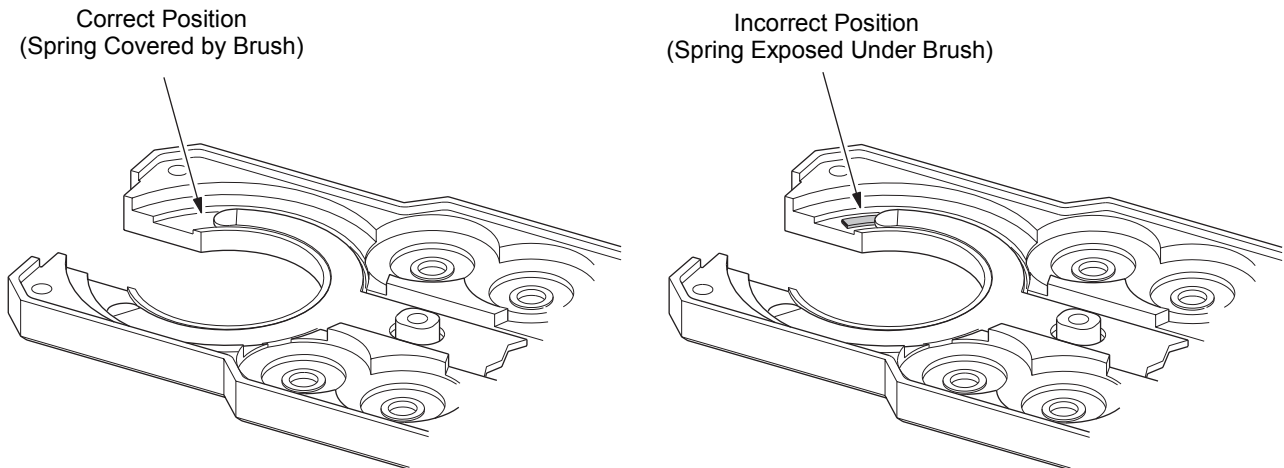

Figure 34 Spring Position
13. Verify that the spring under the weld head brush is not exposed. See Figure 34. If necessary reposition the spring under the weld head brush.